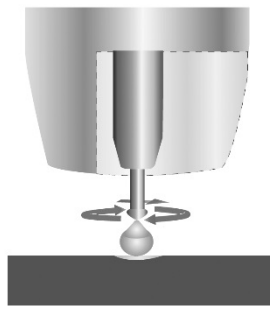

Fig. 30
4. The pinch causes the forming droplet to separate and fall towards the now creating weld pool (Fig. 30).